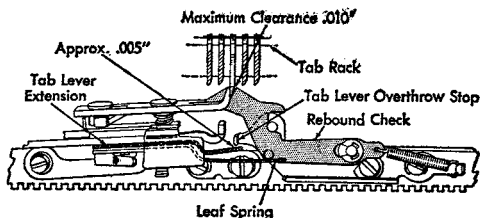

Figure 22. Rebound Check Bracket Adjustment
a. Position the bracket left or right so that the rebound check lever will clear the right-hand face of any set tab stop by a maximum of $.010''$ when the left-hand face of the stop is pressed firmly against the tab check lever (Figure 22).
b. Position the bracket front or rear so that when the rebound check is in its operating position and against the pin in its bracket, the leading edge of the rebound check lever will clear the tab rack by $.010''$ to $.015''$ (Figure 22).
9. TAB LEVER EXTENSION. Form this so that, with the tab cam on its high point the extension will clear the tab lever overthrow stop by $.005''$ (Figure 22). Check both cam lobes and adjust to the one which gives maximum throw.